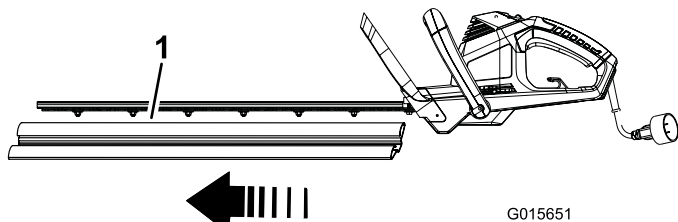

Figure 1
1. Remove the protective cover from the cutter blades (Figure 1).